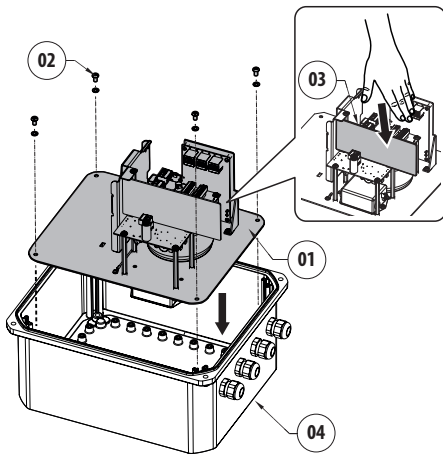

Fig. 9
Once the desired hole is made, assemble the cable glands (not supplied) and holding the board division plate (03) re-insert the internal block (01) in the box (04). Fasten the support plate of the internal block (01) with the previously removed screws (02) (Fig. 9, page 12).